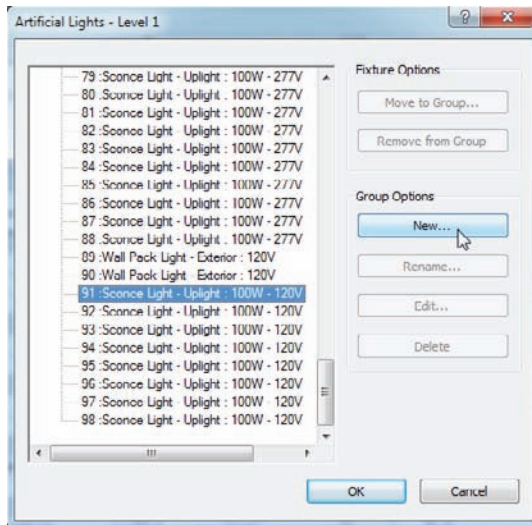

FIGURE 19.13 Adding lights
1. Select one of the sconces you just added to the model, as shown in Figure 19.13.
2. On the Options bar, click the Light Group menu, and select Edit/New from the list (see Figure 19.13).